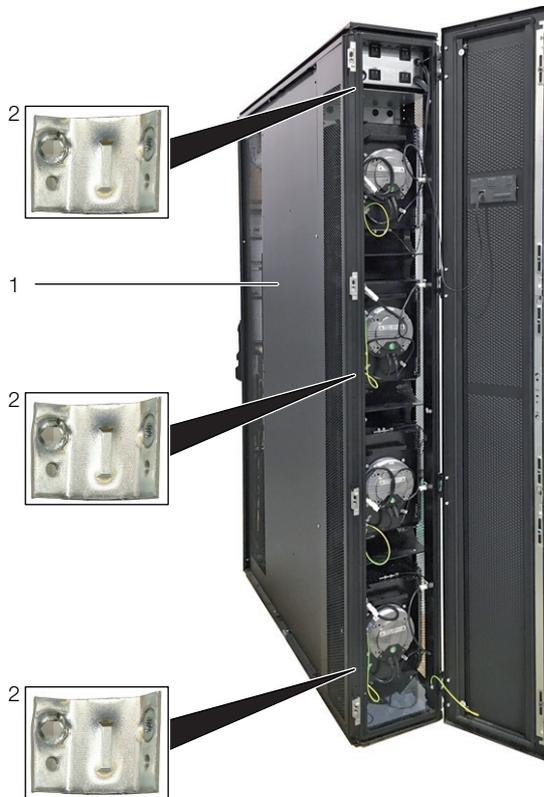

Fig. 18: LCP Rack DX – rear
- Using the corresponding assembly screws, fasten three baying connectors each (fig.18, item 2) onto the attachment points provided in the mounting strips on the front and rear of the LCP DX (fig.18, item 1).